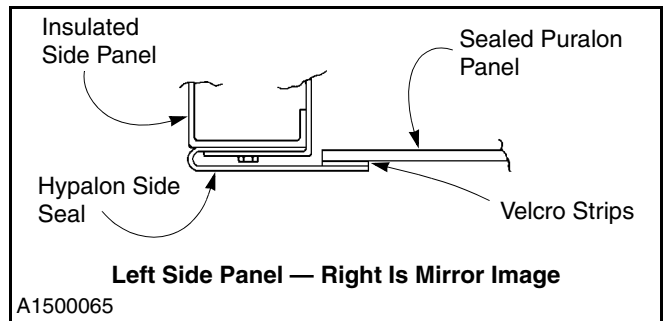

Figure 67
2. Detach the Velcro strip between the side seal and the panel. (See Figure 67.)
5. Attach the Velcro strip on the side seal with the Velcro strip on the panel. (See Figure 67.)